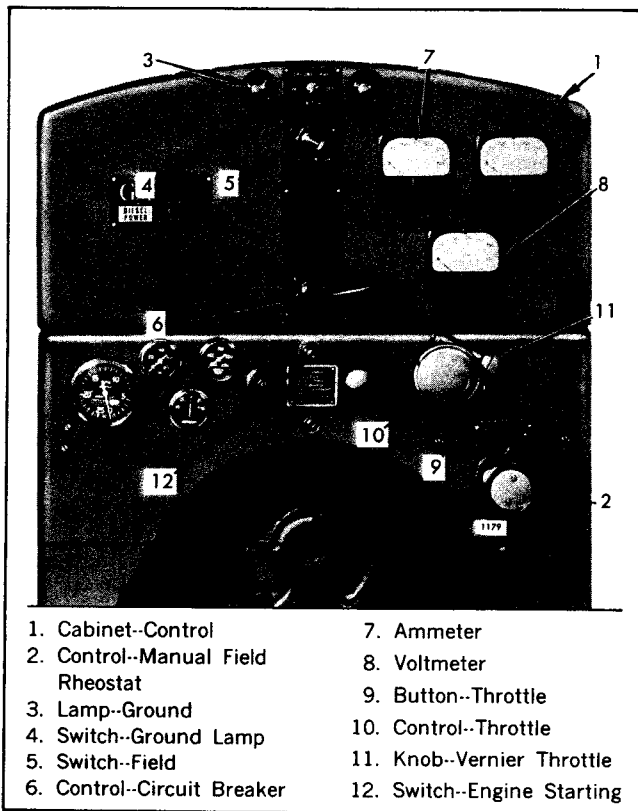

Fig. 2 - Typical Control Cabinet
4. Refer to Fig. 2 and place the circuit breaker (6) in the *OFF* position.
5. Place field switch (5) in the *OFF* position.
6. Place the ground lamp switch (4) in the *OFF* position.
7. Turn the manual field rheostat control (2) counterclockwise to its lowest limit.
Press the throttle button (9) and turn the throttle control (10), Fig. 2, counterclockwise to a position midway between *RUN* and *STOP*. Then press the starter button (12) firmly.
1. Rotate the throttle control (10), Fig. 2, counterclockwise to the *RUN* position.
2. Turn the vernier throttle knob (11) and adjust the engine speed approximately 50 rpm above the rated full-load speed.
3. If the set is equipped with a field switch (5), turn it to *ON*.
4. Observe the voltmeter (8) and turn the manual field rheostat control (2) to the desired voltage.
5. Make sure all power lines are clear of personnel, then place the circuit breaker control (6) in the *ON* position.
2. Adjust the speed to *no-load* operating speed with the vernier throttle knob (Fig. 2).
3. Adjust the manual field rheostat control (2) of the incoming set until the voltage is the same as the existing line voltage.
4. Close the switch in the equalizer lines and then place the circuit breaker control (6) in the *ON* position.
1. Turn off all of the load on the generator when stopping a single engine generator set. Shift the load from the generator when taking a set out of parallel operation by turning the manual field rheostat control (2), Fig. 2, until the ammeter (7) reads approximately zero.
2. Place the circuit breaker control (6) in the *OFF* position.
5. Press the throttle button (9) and turn the throttle control (10) to *STOP* to shut down the engine.